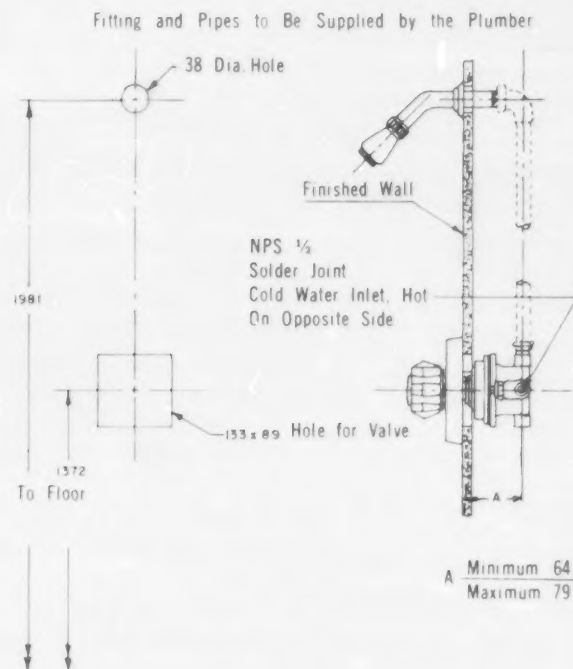

Figure 22-26. Pressure-Compensating Valve with Shower Fitting
g) Described in Figure 22-26 are roughing-in requirements for a shower valve and head for other than a stall shower.